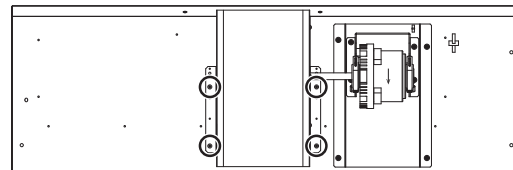

Fig.2
4. Removing the fan case (Fig.2)